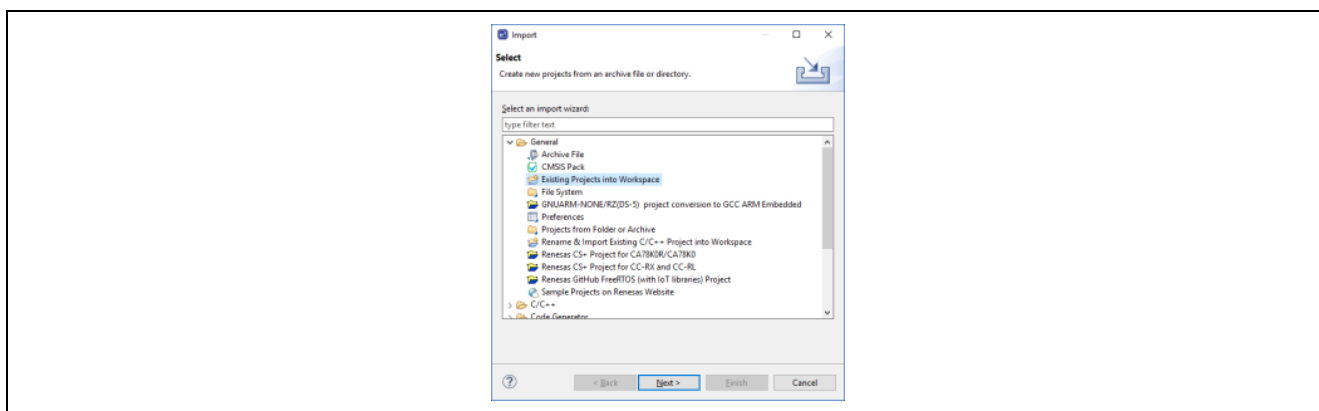

Figure 4-1. Import sample project (1)
4. Double-click General and select **Existing Projects into Workspace** as shown in Figure 4-1: